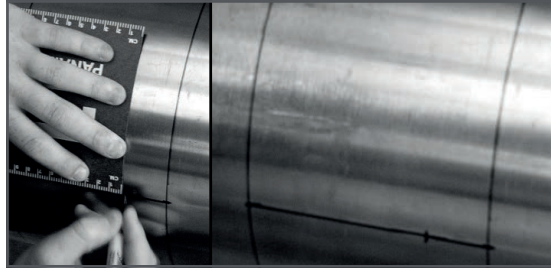

Figure 28: Measuring and Marking Spacing
1. Measure the spacing from the zero point (the point of circumferential origin). Mark the spacing point with a crosshair on the opposite side of the pipe, 180° from the zero point (as shown in *Figure 28*).